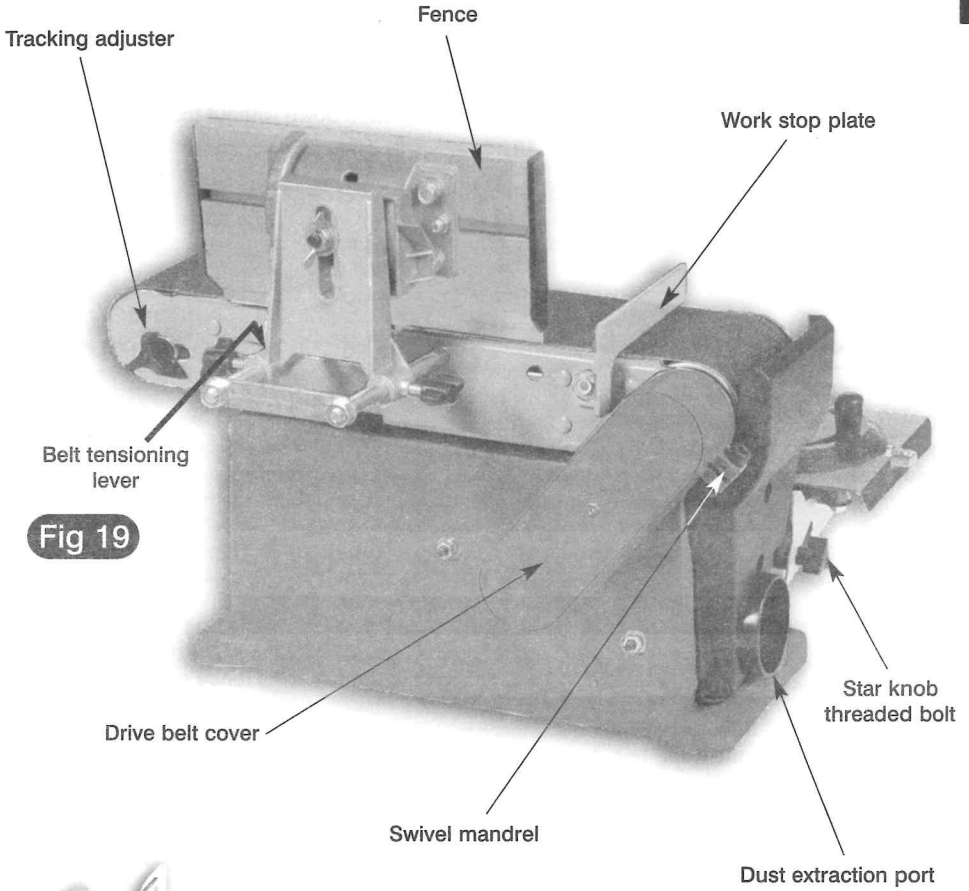

Fig 19
(See fig 19)
- Drive belt cover** (See fig 19) The cover that guards the drive belt. It must be removed to check the condition of, or to change, the drive belt.
- Belt tensioning lever** (See fig 19) The belt-tensioning device is a cranked lever; pivoted about halfway along its length on a pin set in the underside of the linisher chassis. A spring is connected to the end of the cranked part of the lever, which pulls it towards the end of the chassis. The idler drum is mounted in a yoke. The stem of the yoke is slotted; this slot also fits over the pivot pin. The yoke is also fastened to the lever, such that the movement of the lever pulls the yoke down the slot releasing the tension of the idler drum against the belt. The cranking of the lever is to enable an 'overcentre hold' of the lever when it is moved to the 'untension' position against the action of the spring. When the lever is pushed in the opposite direction, it moves the yoke back up the slot so that the idler drum is held against the belt under the pressure of the spring.
- Tracking adjuster** (See fig 19) The belt is tracked by pivoting the yoke with the idler drum about the pin in the chassis. The control of this movement is effected by a Star knobbed bolt fitted through a hole in the linisher chassis and introduced into a threaded hole in the side of the yoke. The yoke is held in position using a spring acting between the chassis and the yoke, with its actual position governed by the adjusted length of the threaded bolt.
- Swivel mandrel casting** (See fig 19) This is the casting that mounts the linisher to the main machine chassis, the casting forms a swivel joint over the drive shaft mandrel. The casting is split and is clenched onto the mandrel using a bolt through the two cast lugs. Slackening the bolt allows the linisher to be tilted up to the vertical position.
- Dust extraction port** (See fig 19) The dust extraction port is moulded into the chassis cover, directly below the dust deflector over the drive drum. The lower section of the chassis is accessed by the extraction port, so the resulting draught will remove the dust from the disc sander, and also encourage airflow past the motor.